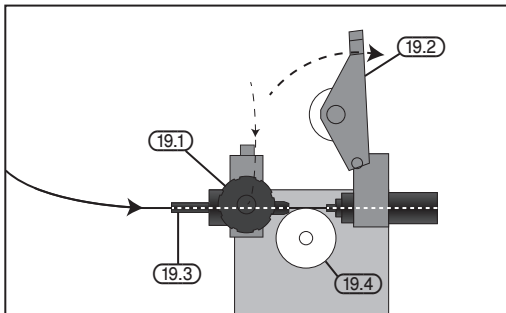

FIG. 2
7.5 INSTALLING THE FILLER WIRE (MIG WELDER) – FIGS. 2 - 6